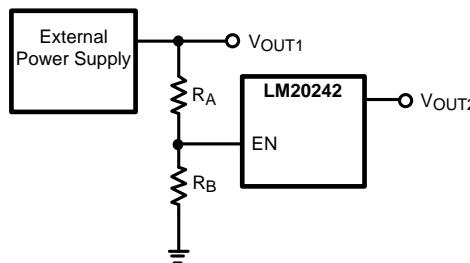

Figure 13. Sequencing LM20242 with Precision Enable
The LM20242 has an internal under-voltage lockout protection circuit that keeps the device from switching until the input voltage reaches 3.9V (typical). The UVLO threshold has 200 mV of hysteresis that keeps the device from responding to power-on glitches during start up. If desired the turn-on point of the supply can be changed by using the precision enable pin and a resistor divider network connected to V_{IN} as shown in Figure 13 in the design guide.
The precision enable (EN) and power good (PGOOD) pins of the LM20242 can be used to address many sequencing requirements. The turn-on of the LM20242 can be controlled with the precision enable pin by using two external resistors as shown in Figure 13.